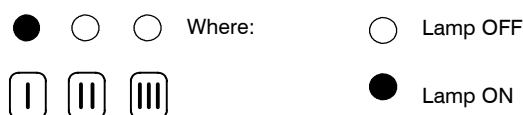

Fig. 16
- 6 The lamps F should give the indication as in Fig. 16. If not, press the reset button repeatedly to obtain it.